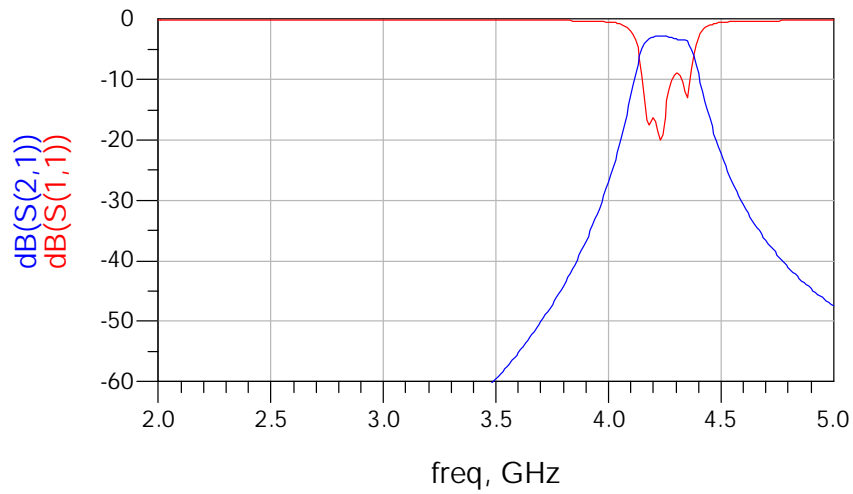

Figure 4. Example results for a microstrip coupled-line band-pass filter with a center frequency of 4.25 GHz.
- c) Once you are satisfied that your filter meets the design specifications (e.g., see Figure 4), obtain a hardcopy of the schematic and a hardcopy of the simulated S-parameter results (magnitude of  $S_{11}$  and  $S_{21}$  in dB). Set the minimum value on the y-axis to  $-60\ \text{dB}$ .
- d) As seen in Figure 4, the pass-band insertion loss of the microstrip filter will be higher than the ideal design. The return loss in the pass-band should be approximately 9-10 dB or better.